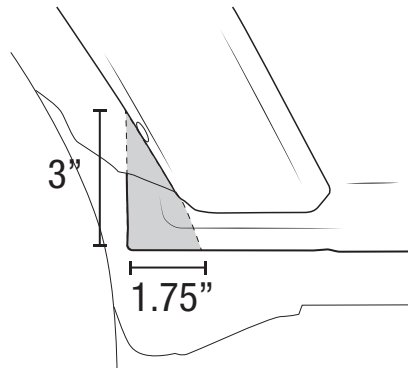

Figure 11
18. For **2007–2013** JK and JKU it is necessary to trim the pinch seams (and rocker guards on Rubicon models) if running 35" tires or larger. (Fig. 11). For **mid-2013 and newer** JK and JKU only the Rubicon rocker guard needs to be trimmed. Remove the end cap and trim 1" (from rear). Follow standard touch-up painting procedures to prevent corrosion on all cut surfaces.